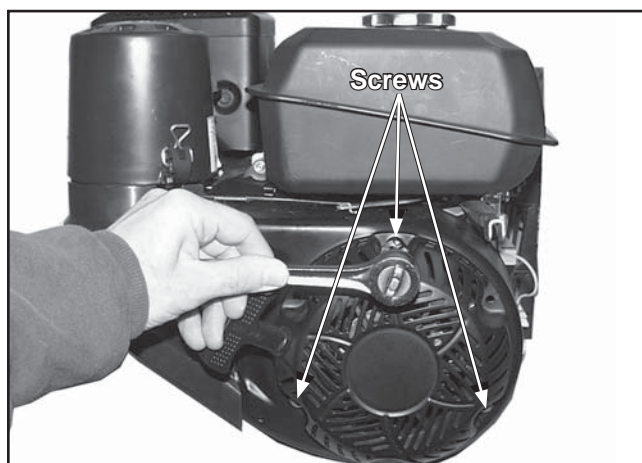

Figure 7-2. Installing Retractable Starter.
1. Align the retractable starter with the mounting locations on the blower housing, and install the hex flange screws. Leave the screws slightly loose. See Figure 7-2.